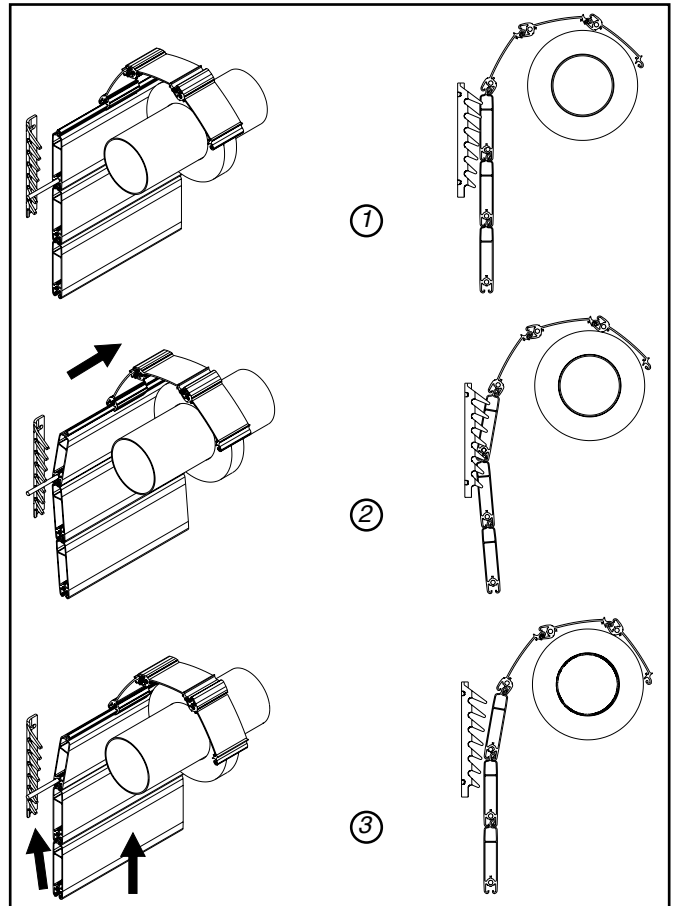

Fig. 15 : Lift security system
- **Lift security system:** see figure 15